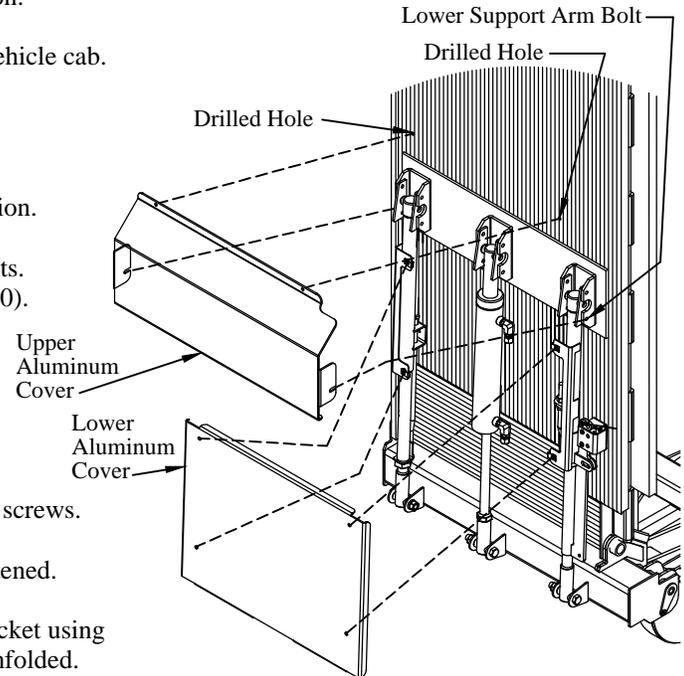

Figure 20: Aluminum cover installation.
7. **Install** the upper aluminum cover on the lower 5/16" support arm bolts. 5/16" flat washers should have been installed previously (Figure 20).
8. **Drill** two (2) 13/64" holes in the platform, using the holes in the aluminum cover as a guide.
9. **Install** two (2) 1/4-20 self-tapping screws in the drilled holes.
10. **Install** the lower aluminum cover using four (4) 1/4-20 self-tapping screws.
12. **Secure** the limit switch wire to the support arm and limit switch bracket using two (2) plastic zip ties. This should be done with the platform unfolded.